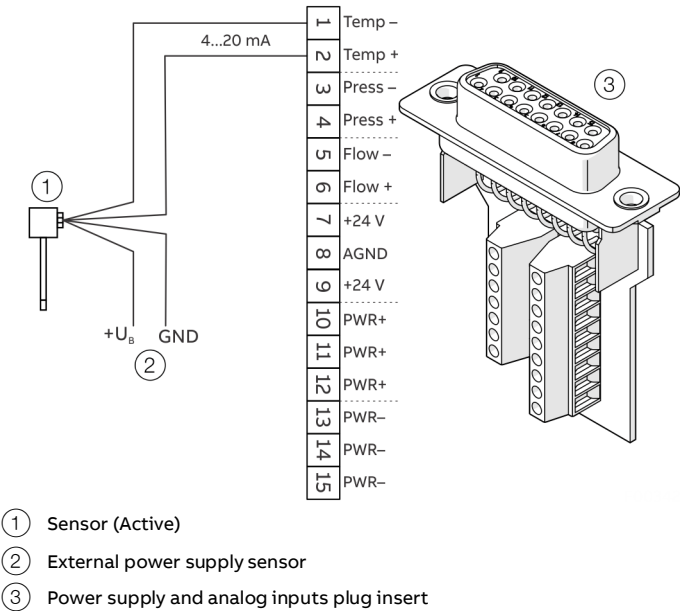
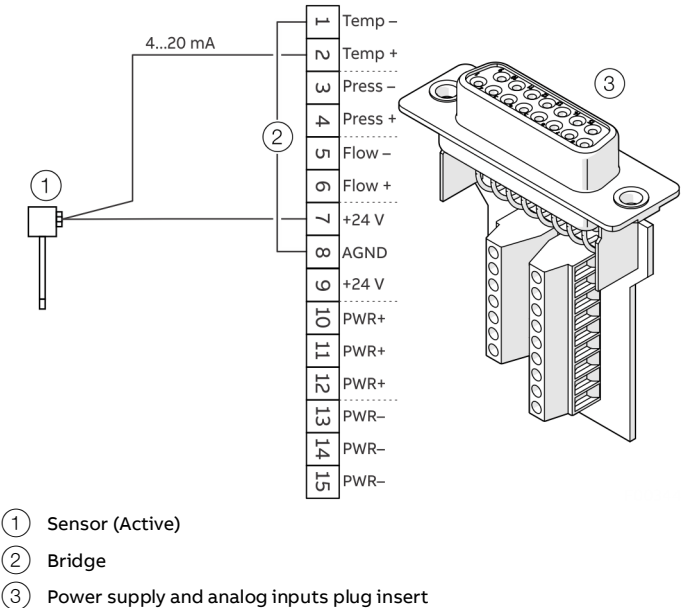

Figure 35: Connection example for analog input, active (example, temperature sensor)
Figure 36: Connection example for analog input, passive (example, temperature sensor)
5. Connect the cables to the screw terminals of the plug insert according to Figure 35 "Active sensor" or Figure 36 "Passive sensor".